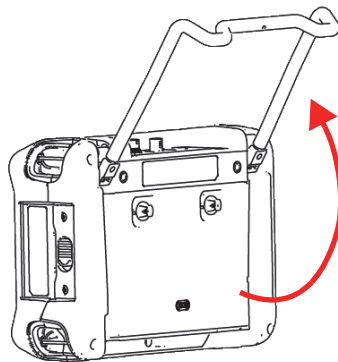

Figure 4-1 Pipe stand unfolded
2. Fully unfold the pipe stand at the back of the 72DL PLUS gauge (Figure 4-1 on page 45).